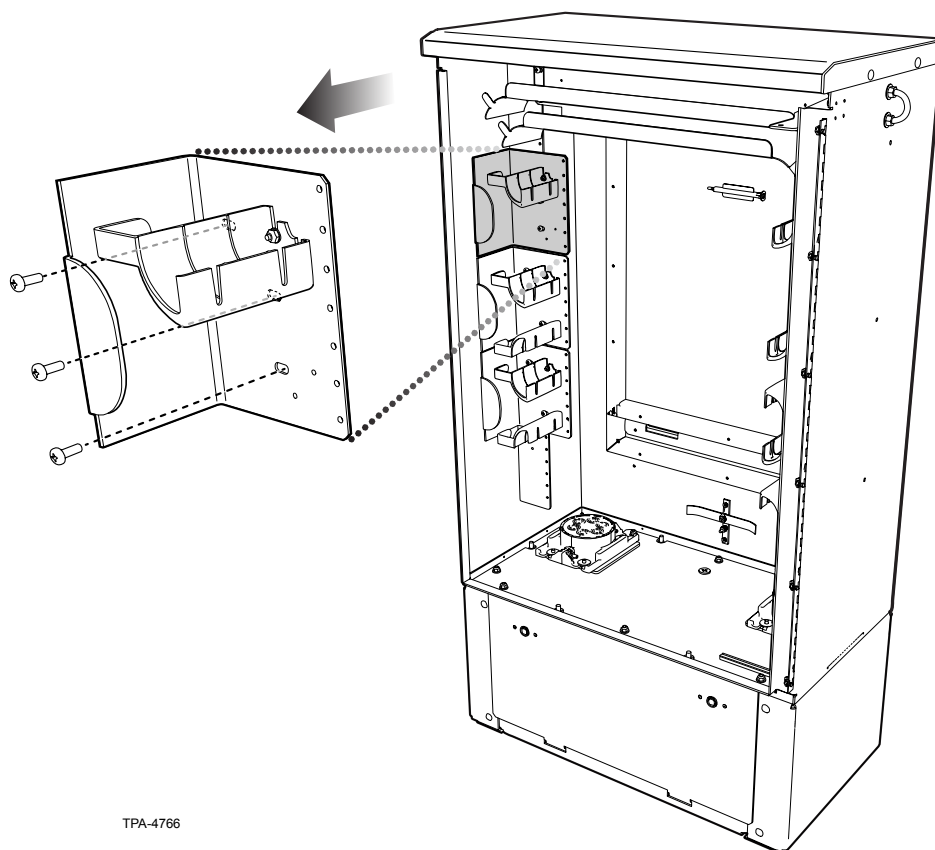

Figure 2
**Step 2:** Remove the hardware holding each factory-installed mounting bracket to the upright frame (Figure 2).